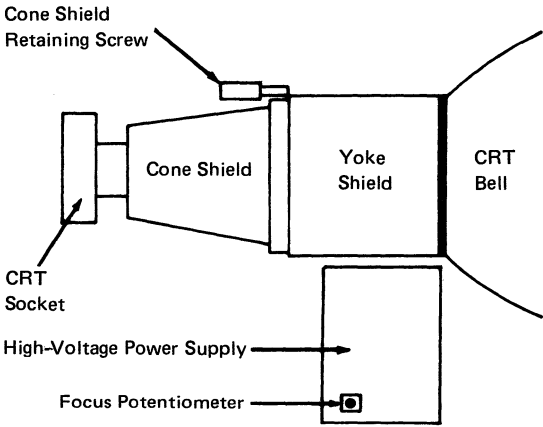

Figure 5-1. CRT and High-Voltage Power Supply
1. Remove the socket from the base of the CRT (see Figure 5-1).
2. Loosen the cone shield retaining screw (see Figure 5-1), rotate the cone shield counterclockwise until the locking tabs disengage, and pull the cone shield straight back to clear the CRT neck. Do not remove the yoke or yoke shield.
The focus potentiometer is located on the high-voltage power supply (see Figure 5-1). Adjust the focus potentiometer for the best overall definition of the screen image characters at the center and those at the edge of the display area.